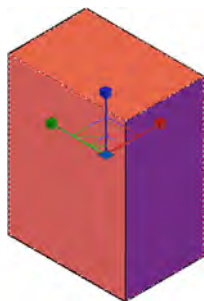

FIGURE 22.18
- Step 3.** You also see a scaling gizmo appear, which snaps to whatever base point you select (Figure 22.18).